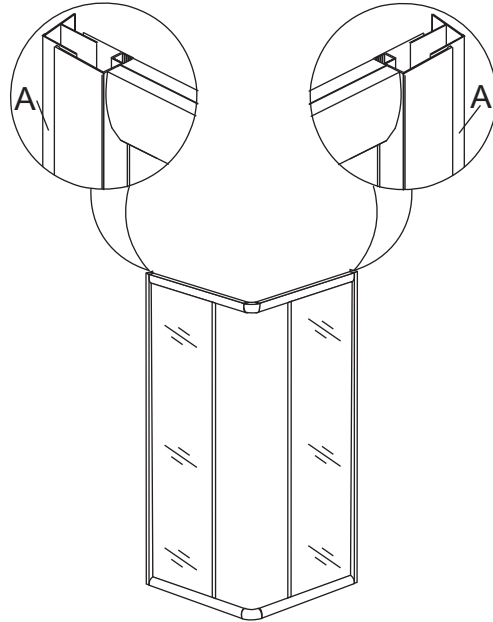

Fig.8
8. Insert the two wall profiles (A) into both side profiles, ensuring the correct orientation of the flanges as per **Fig.8**.